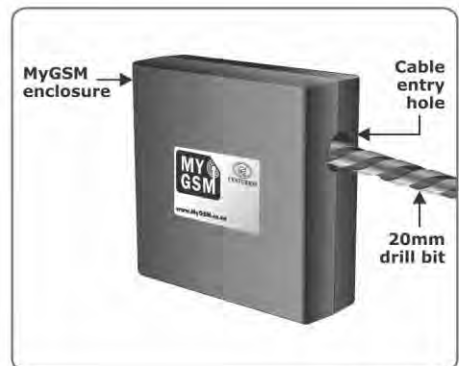

FIGURE 5.
2. Using a 20mm drill bit, drill a cable entry hole in the side of the enclosure as shown in Figure 5.